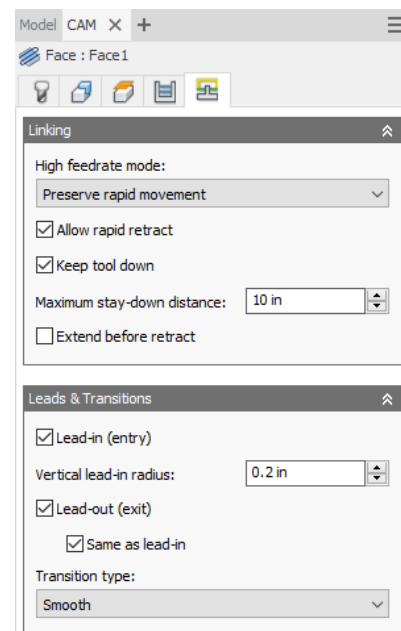

Figure 17
5. Select the  (Linking) tab. This tab's options (Figure 17) define how each toolpath pass should be linked to others and how many leads and transitions will be generated.